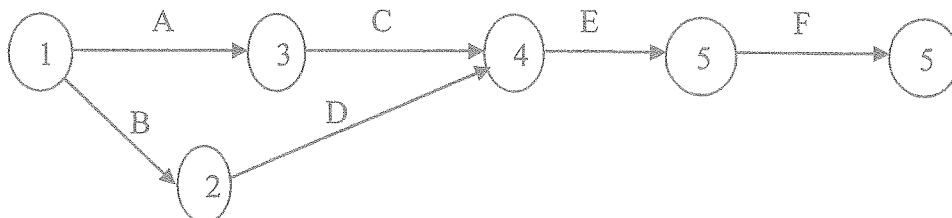

Figure Q3: Network Diagram
- i Draw the LOB diagram to show the information in Table Q3 (a) and Figure Q3.